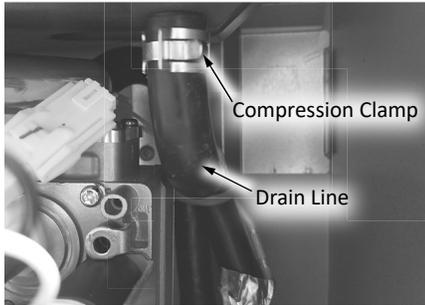

Figure 64: Drain line.
- 20 Disconnect the rubber drain tube (# 416) from the bottom right of the secondary heat exchanger. The connection uses a compression clamp and will require pliers to move the clamp. See Figure 64.